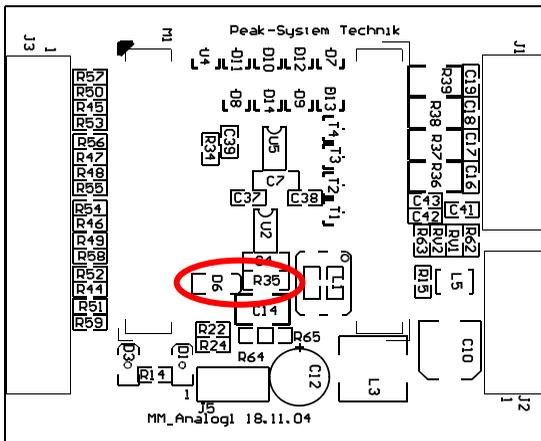

Figure 2: Position D6, R35
1. Equip the unpopulated position D6 (see Figure 2) with a reference diode BZV55C12.
2. Replace the 0-Ohm resistor on position R35 (see Figure 2) with a resistor of 1.6 k $\Omega$ .